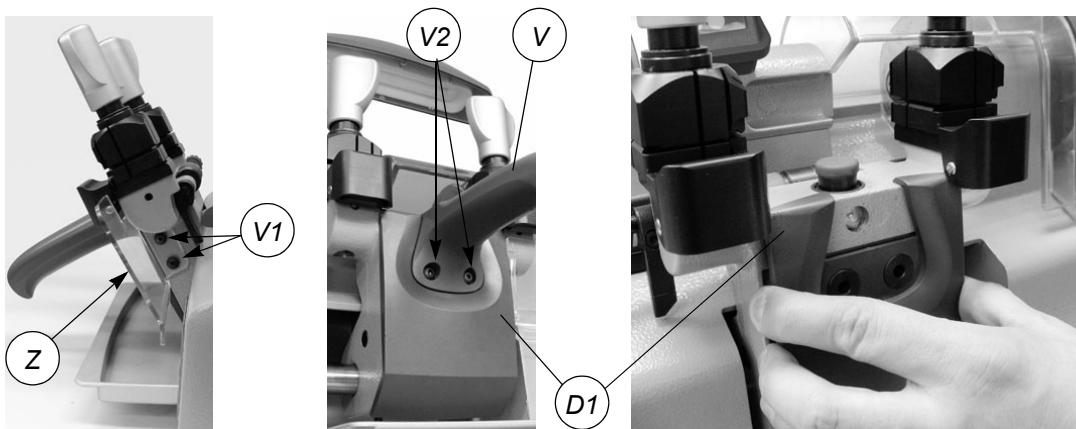
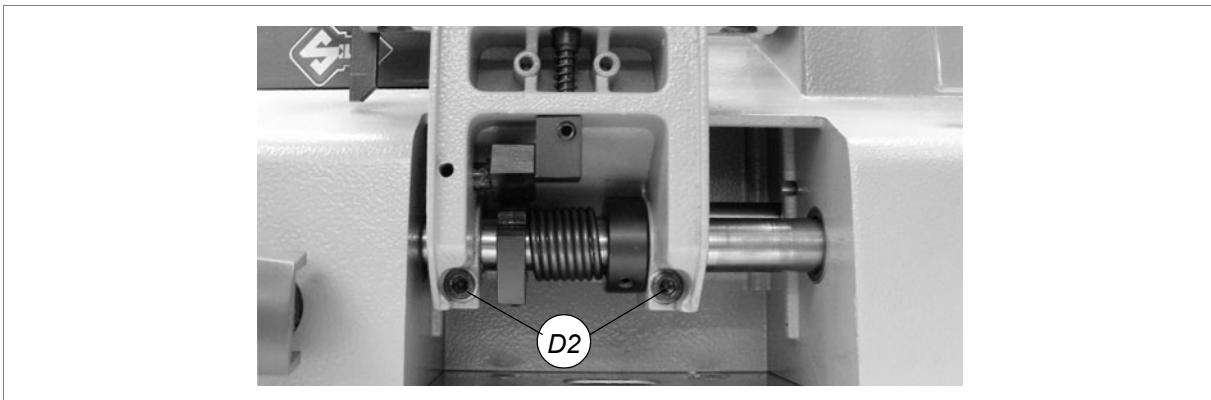

Fig. 48
Fig. 49
- 2) Loosen the 2 screws (V1) and remove the protection from swarf (Z) (fig.48).
- 4) Loosen the 2 screws (V2) on the carriage knob (V) (fig.48).
- 5) To remove the knob (V), raise a little and pull off.
- 7) Loosen the 2 screws (D2) on the carriage (fig. 49, page 32).